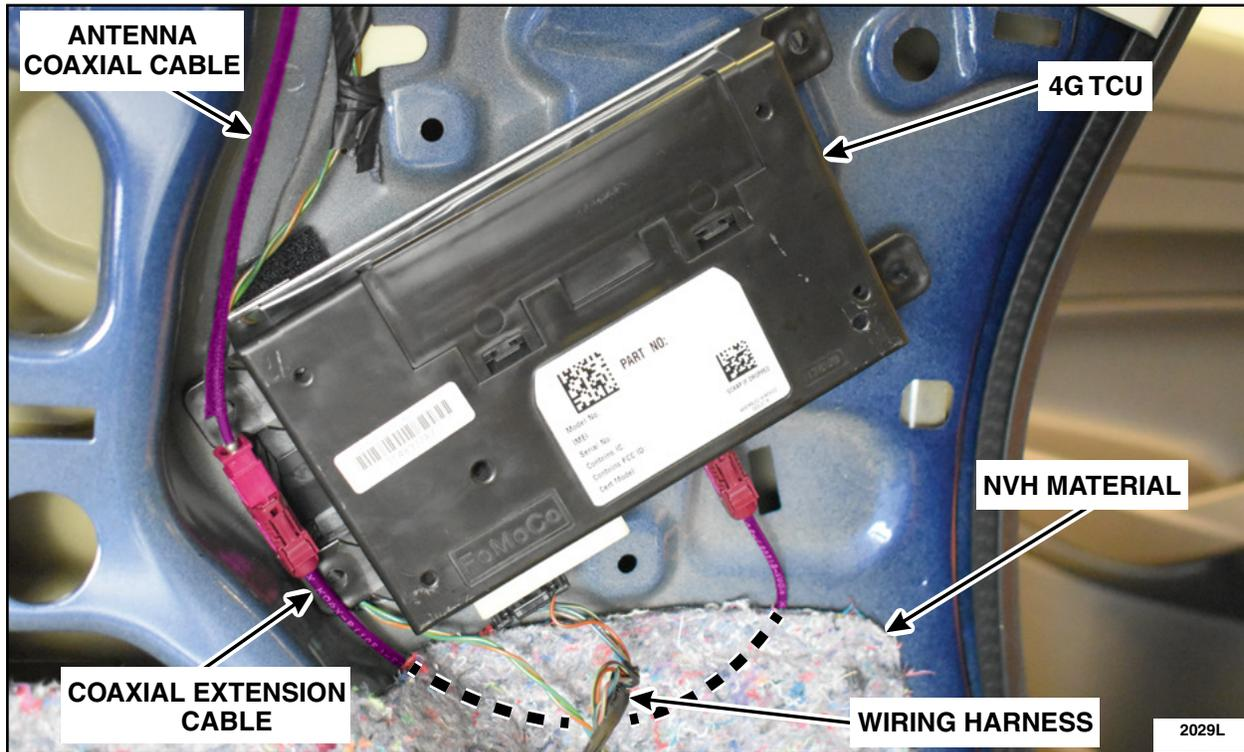

FIGURE 10
13. Connect and route the coax extension cable. See Figure 10.